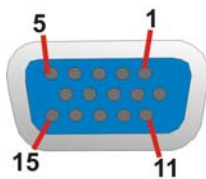

Figure 3-23: VGA Connector
- CN Pinouts:** See **Figure 3-23** and **Table 3-27**